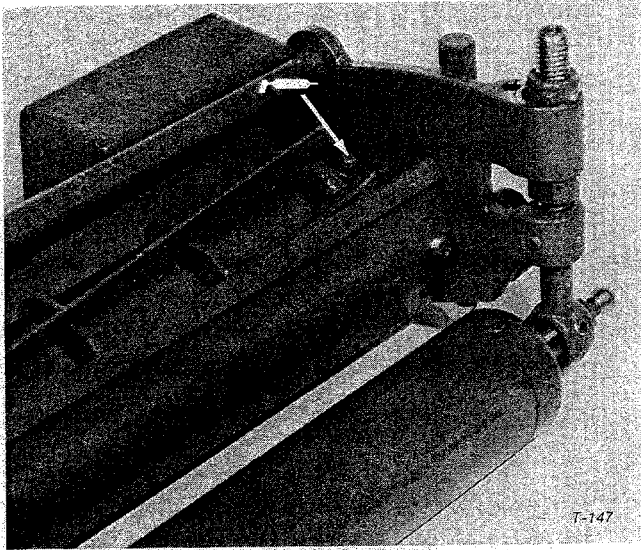
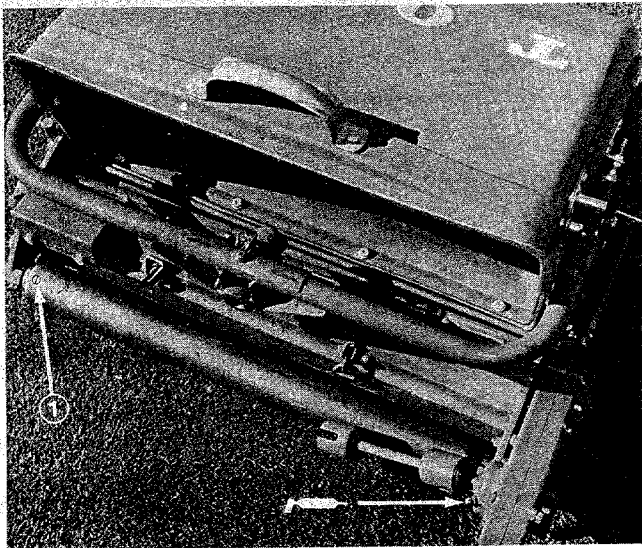
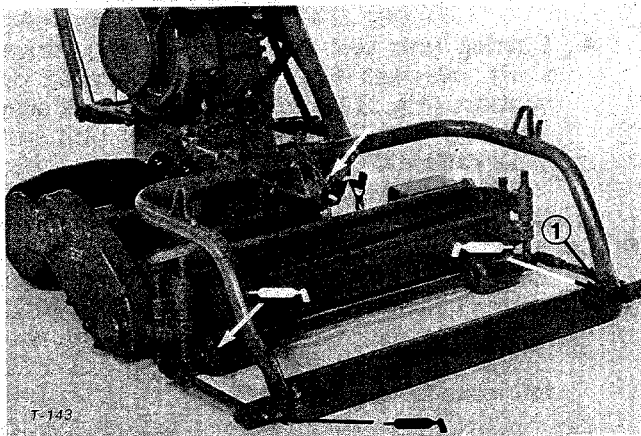

Figure 31
Figure 32
Figure 33
- A. Cutting unit reel bearings (Fig. 31), drive shaft bearing (Fig. 32), front roller or support (Fig. 33), yoke pivot and pull arm bushings (Fig. 33) and rear cutting unit and yoke rollers (Fig. 32, 33).
- B. To lubricate the rear cutting unit and yoke rollers, remove pipe plugs at each end, install 1/8-27 NPT grease fittings, lubricate bearings, remove fittings and replace pipe plugs (Fig. 32, 33). Apply grease to enclosed bearing areas only until pressure is felt against the grease gun.
- C. Front roller or support, yoke pivot and pull arms; apply grease to bearings until it begins to show (Fig. 33).